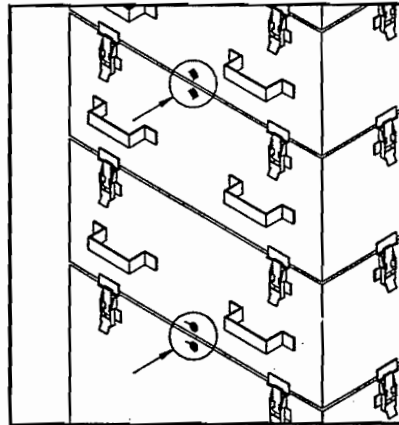

Figure No. 2
7. Alignment of buttons on trays, sump and demister should be noted. Proper assembly of STAT requires alignment of buttons shown in Figure No. 2.
to the STAT unit. Refer to Figure No. 2 for button alignment.